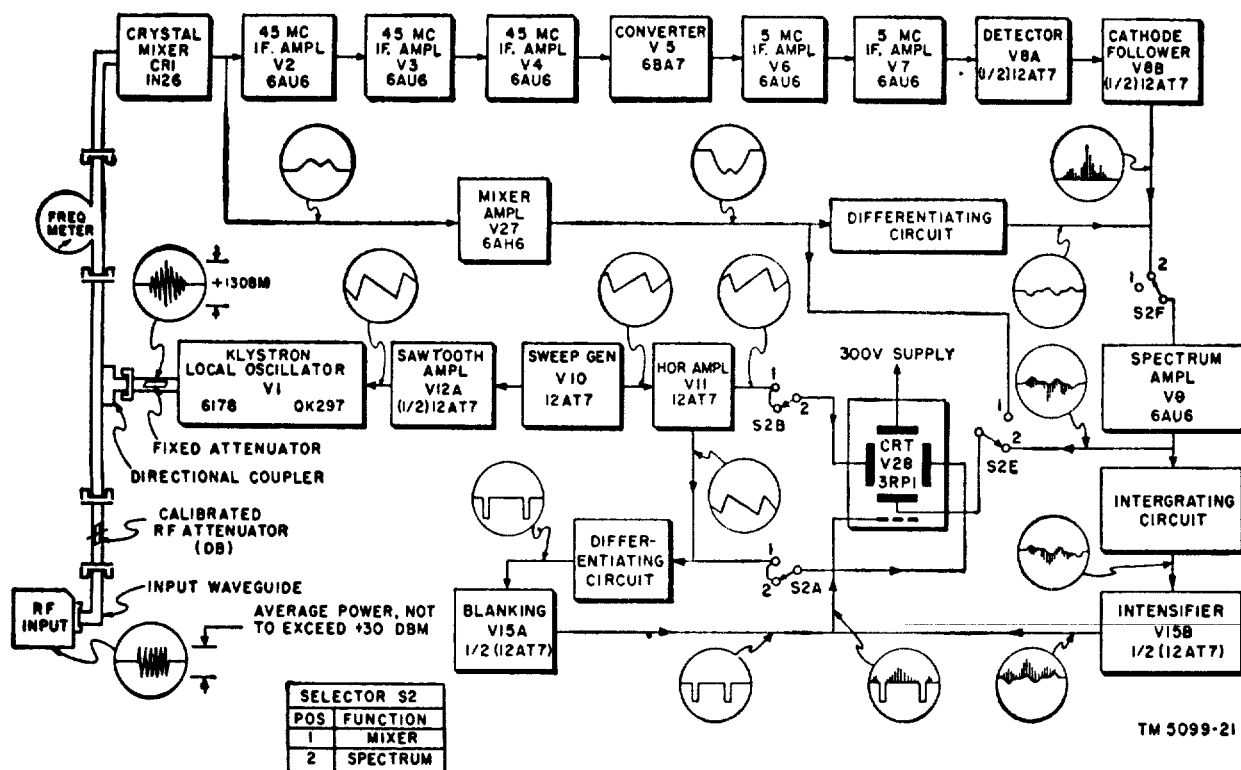
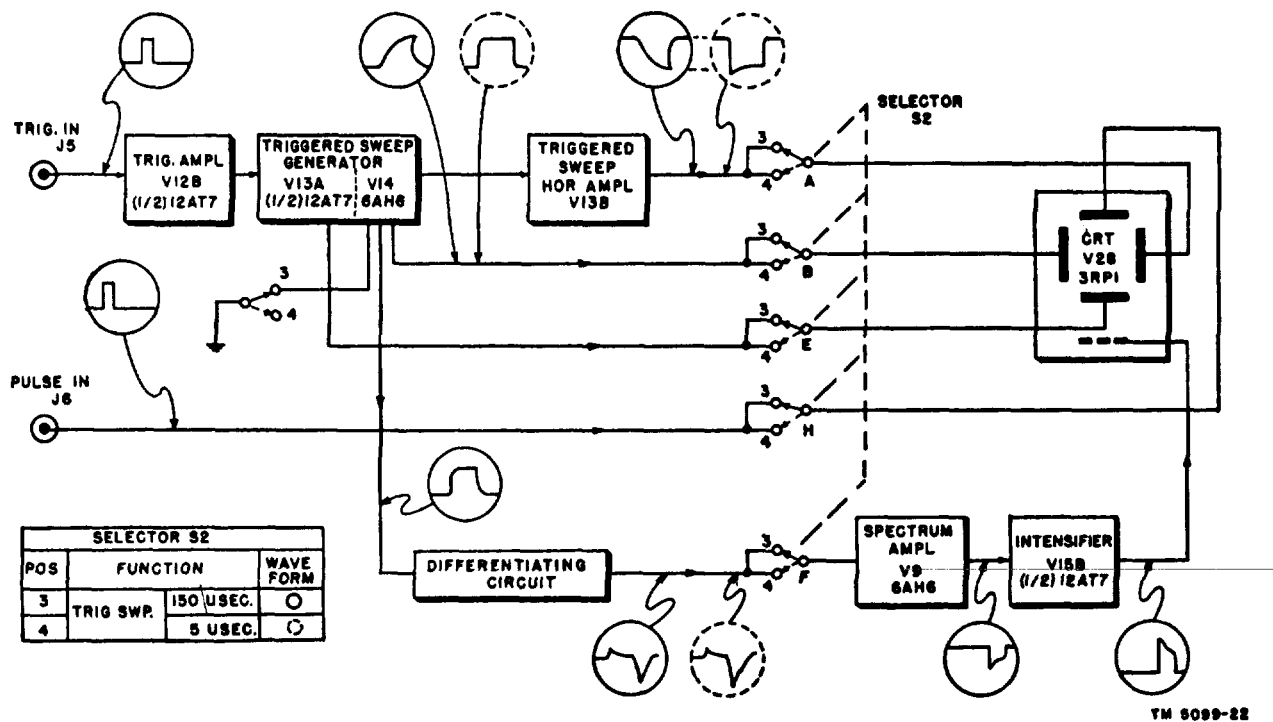

Figure 22. Mt. Spectrum Analyzer TS-742/UPM, block diagram of signal paths, spectrum analysis function. TAGO 6709-A. June
Figure 23. Spectrum Analyzer TS-742/UPM, block diagram of signal paths, syncroscope function.
a. *Spectrum Analyzer* fig. 22). Spectrum Analyzer TS-742/UPM when functioning as a spectrum analyzer consists of a dual conversion superheterodyne receiver with a klystron local RF oscillator, frequency-modulated by a sawtooth voltage. As the frequency of the local oscillator is varied, it beats with the incoming cw or pulsed signal to produce an IF signal for the various frequency components
b. *Synchroscope* fig. 23). Spectrum Analyzer TS-742/UPM when functioning as a synchroscope consists of a trigger amplifier, a triggered sweep generator, and a horizontal amplifier that operates
A block diagram of signal paths in the spectrum analysis function of Spectrum Analyzer TS-742/UPM is shown in figure 22. The signal path in the synchroscope operation of the unit is shown in figure 23. For more detailed overall circuit information, refer to the schematic diagram fig. 60).
a. *Spectrum Analysis Operation* (fig. 22). The video display of a spectrum is developed within the spectrum analyzer as follows:
- (1) *Input waveguide.* The input waveguide is the length of an H-band rectangular waveguide that terminates in a choke flange at each end. It is used to couple the input signal into the calibrated RF attenuator. The average power of the RF signal applied to the waveguide is not to exceed 1 watt (30 dbm).
- (2) *Calibrated RF attenuator.* The calibrated RF attenuator consists of a rectangular resistance element mounted in the portion of waveguide that joins the input waveguide at one end and the directional coupler at the other end. Varying the position of the resistance element across the inside area of the attenuation waveguide varies the degree of maximum attenuation. Maximum attenuation is obtained when the element is displaced towards the center of the waveguide. The attenuator controls the amplitude of the signal that enters the analyzer.
- (3) *Directional coupler.* The directional coupler consists of two branches of aperture coupled waveguide, with one termination joining the calibrated RF attenuator, another mating with the frequency meter and a third connected to the klystron oscillator via the fixed attenuator. The purpose of the directional coupler is to permit signal and klystron oscillator voltages to be fed into the crystal, at the same time preventing the oscillator from feeding back to the input.
b. *Synchroscope Operation* (fig. 23). High amplitude pulses are fed through the PULSE IN receptacle J6 and applied directly to one of the vertical plates of the cathode-ray tube. The horizontal sweep is developed as follows:
- (1) *Trigger amplifier.* The external triggering pulse is applied through TRIG. IN receptacle J4 and amplified by V12B, one-half of a type 12AT7 dual-triode. The negative output signal is fed to the trigger sweep generator.
- (2) *Triggered sweep generator.* The trigger pulse from the trigger amplifier is applied to the triggered sweep generator that consists of V13A and V14, one-half of a 12AT7 and a 6AH6 pentode connected as a multivibrator. The trigger initiates the multivibrator action of this stage. The output is a positive sweep of 150 or 5,sec duration, depending on the setting of the function selector switch. A portion of the output sweep is applied directly to one of the horizontal plates of the crt. Another portion is applied to the triggered sweep horizontal amplifier. In addition, a square pulse output is differentiated and applied to the spectrum amplifier to be used for blanking.
- (3) *Triggered sweep horizontal amplifier.* The positive sweeps from the triggered sweep generator is amplified by V13B, the triggered sweep horizontal amplifier, and the negative output is fed to the other horizontal deflection plate of the crt.
- (4) *Intensifier.* The square wave output from the triggered sweep generator is differentiated, and the negative pulse is amplified by V9, the spectrum amplifier. The resultant positive signal is applied to intensifier V15B, one-half of a type 12AT7 vacuum tube. The negative output of this stage, a negative blanking signal, is fed to the grid of the crt and coincides with the retrace portion of the display.